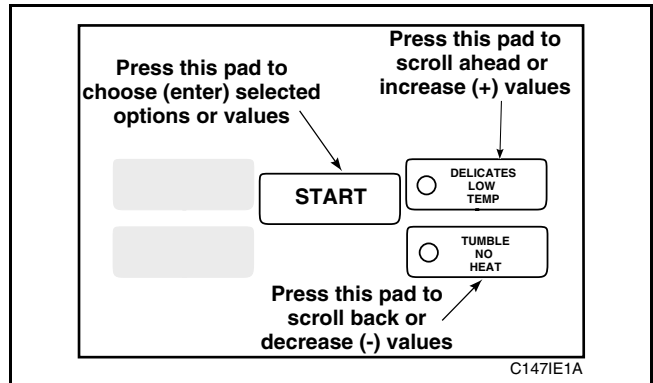

Figure 36
5. Press the LOW TEMP (+) pad or the NO HEAT (-) pad to increase or decrease the current end hour to the desired end hour, *Figure 36*.